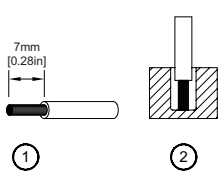

Figure 4
To secure reliable and shock proof connections, the stripping length should be 7 mm [0.28 in] (see Fig. 4 (1)).
Please ensure that wires are fully inserted into the connecting terminals as shown in Fig. 4 (2).